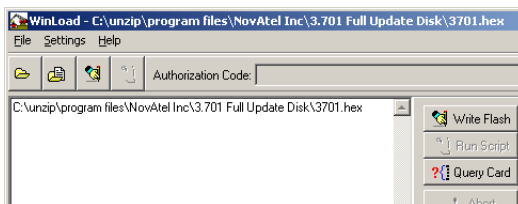

Figure 18: Open File in WinLoad
When you have selected a file, the filename appears in the main WinLoad display area and in the title bar, as shown in *Figure 18*.
2. Ensure that the file path and name are displayed in main display area (see *Figure 18* on page 78).